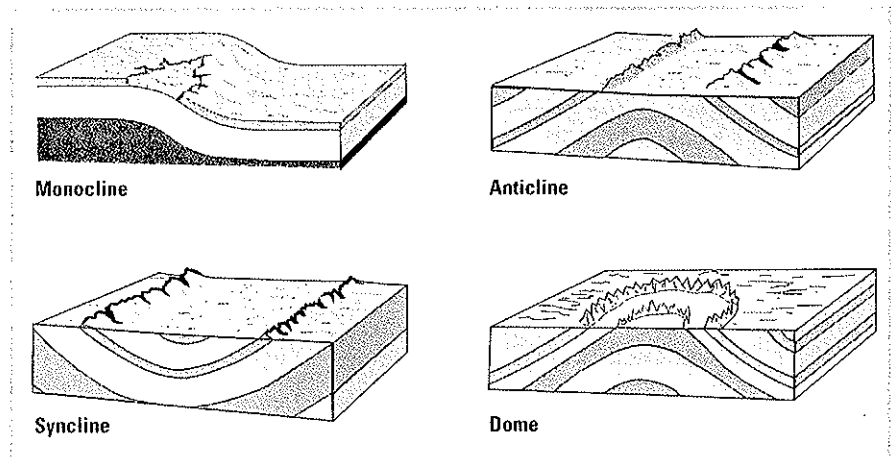

Fig. 2-15. Forms of folded strata. Rock layers deformed into a variety of shapes.
*Folding* or bending of rock layers results in many shapes that have been named by geologists (fig. 2-15). Of great and historically early interest to the petroleum explorer is the *anticline* and its more symmetrical cousin, the *dome*, common structures in which hydrocarbons can be trapped as they migrate from their source toward the surface of the Earth.